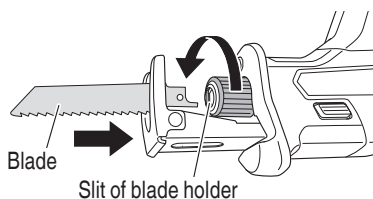

Fig. 7
- (1) Turning the blade holder in the direction indicated by the arrow, insert the blade all the way into the small slit of the blade holder. (Fig. 7)